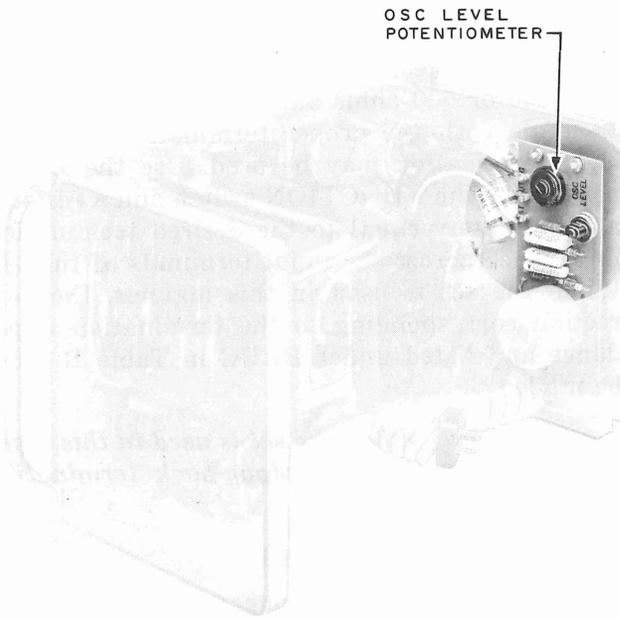

Fig. 4 – Calibration Oscillator Adjustment
- (6) Set the FUNCTION switch on OFF.
- (7) Remove the 3A set from its case. This is done by simply unscrewing the latches in the four corners on the face of the set. Do not disconnect the battery.
- (8) Set the FUNCTION switch on CAL.
- (9) Adjust the OSC LEVEL potentiometer (Fig. 4) until the meter reads on the red line of the scale. This completes the primary calibration. One may rely upon the internal calibration until the next battery change (see 3.01).